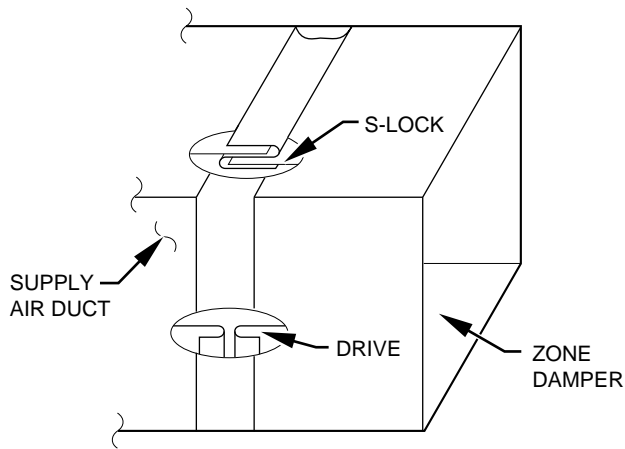

Fig. 10—Rectangular Metal Duct Work A92478
1. Make connections using S-lock and drives. (See Fig. 10.)